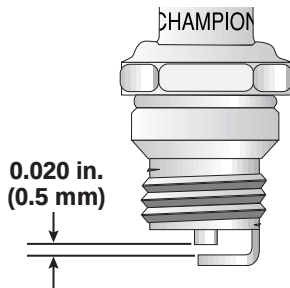

Fig. 40
3. Replace a cracked, fouled or dirty spark plug. Set the air gap at **0.020 in. (0.5 mm)** using a feeler gauge (Fig. 40).